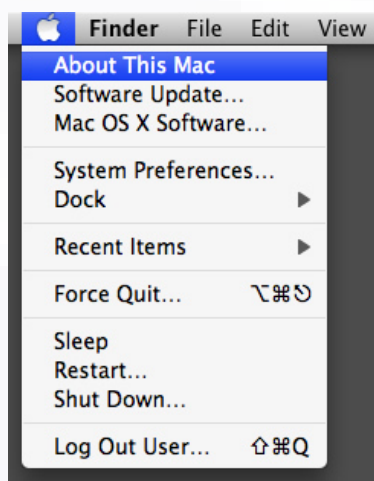

Figure 10.4 MacOS Menu
- To do this, click on the Apple icon in the top left hand corner of the screen (see figure 10.4)
- To do this, click on the Apple icon in the top left hand corner of the screen (figure 10.4)